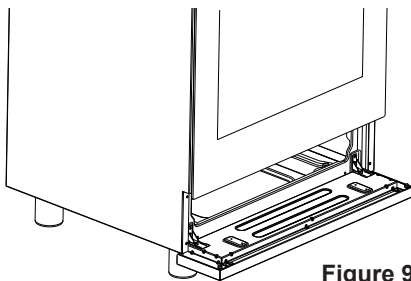
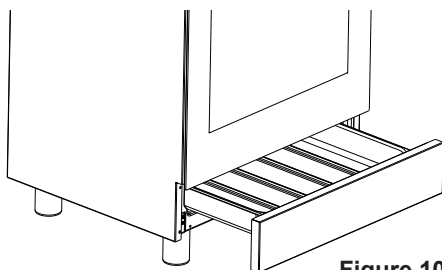

Figure 9
Figure 10
- Depending on model, open the pivoting panel (fig. 9, model DMX64LDC) or remove the drawer (fig. 10, models PRO66MXLPZ, PRO66MALPZ).